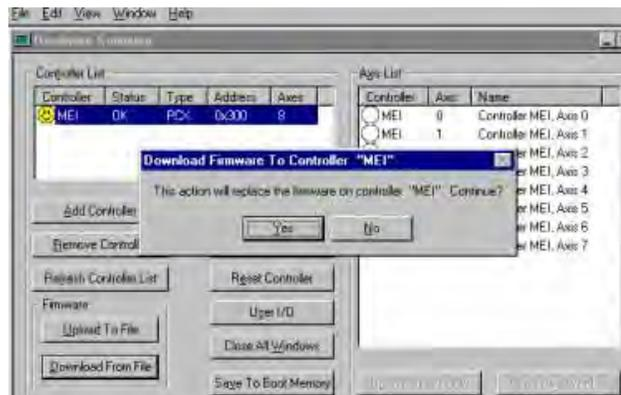

Figure 5-75—Replace firmware
- 4d) Click **Yes** to replace the firmware on controller “MEI,” as shown in Figure 5-75.